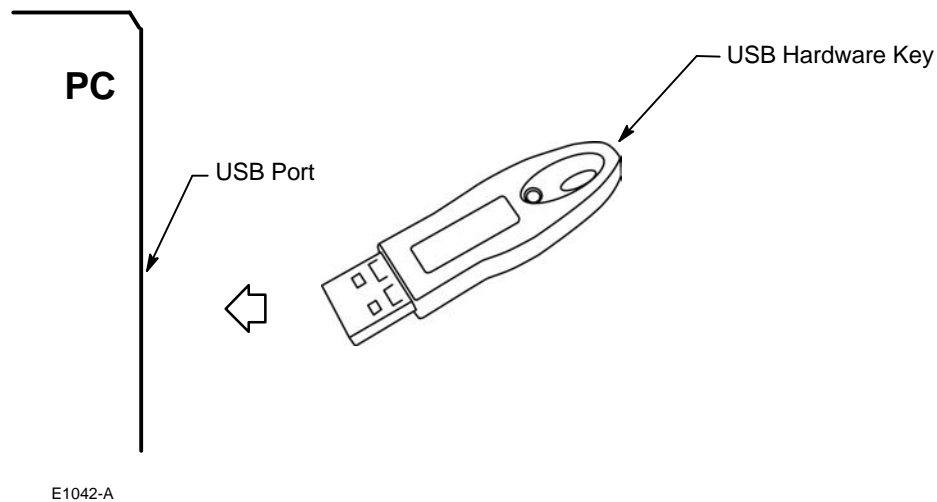

Figure 7-2. Attaching the USB Hardware Key
- Step 1:** Attach your installation USB hardware key to the computer, as shown in figure 7-2.